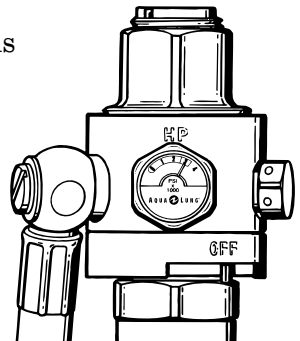

Fig. 5 - Pressure Gauge
6. Apply a  $\frac{9}{16}$ " open-end wrench to the pressure gauge assembly, located between the HP port which contains the safety disc assembly and the low pressure port which contains the LP hose swivel. (See Fig. 5.) Turn the pressure gauge assembly counter-clockwise to loosen and remove from the first-stage.